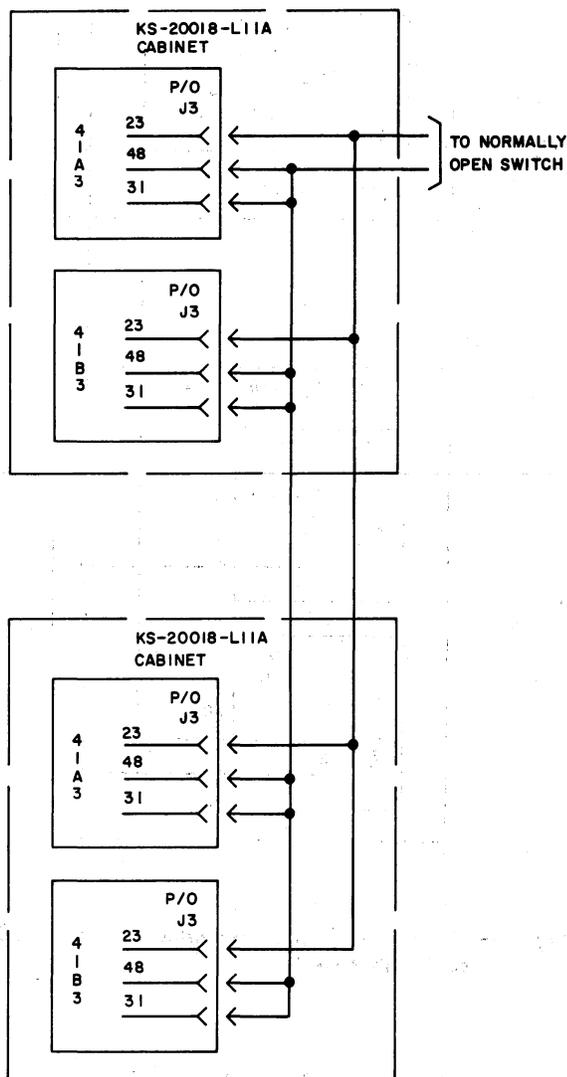

Fig. 6—Computer Down Detection by Switch Only
- 22 Wire option AA, BB, CC, or DD as specified on the service order or circuit layout record card, in accordance with Fig. 6, 7, 8, or 9, as applicable.